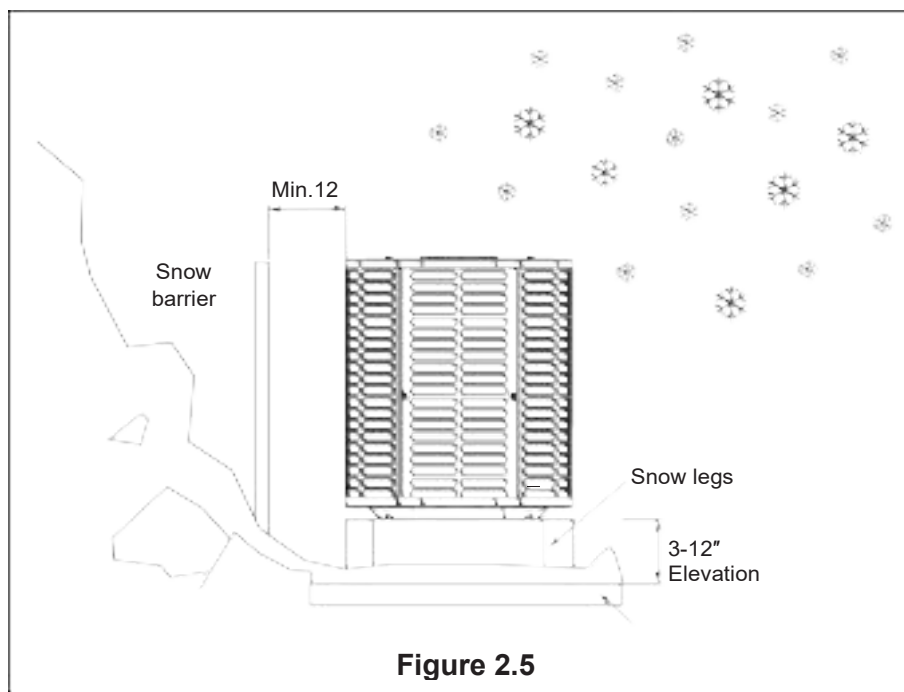

Figure 2.5
- Depending on the local weather conditions, the unit should be raised by 3-12 inches. This extra height will allow the snow and ice melted during the defrosting cycle to be discharged before re-freezing. Make sure that the drain hole on the unit chassis is not blocked, otherwise it will hinder the defrosting water discharge (Figure 2.5).